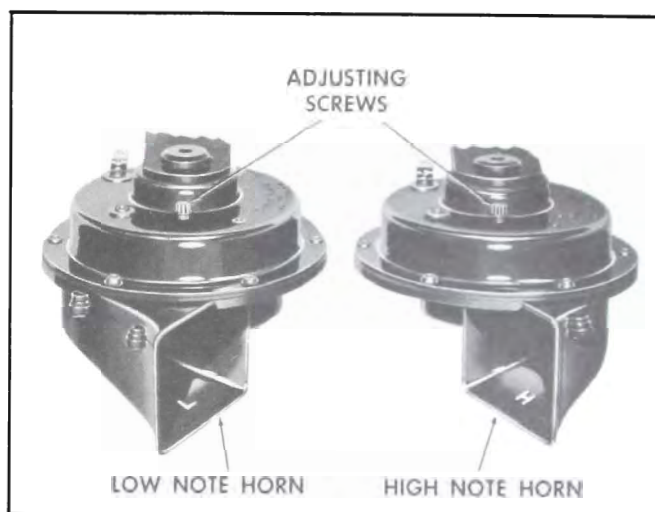

Figure 10-57—Matched Horn Set
3. Adjust to specified current draw if necessary, by turning adjusting screw clockwise to decrease or counter-clockwise to increase current draw. See Figure 10-57.